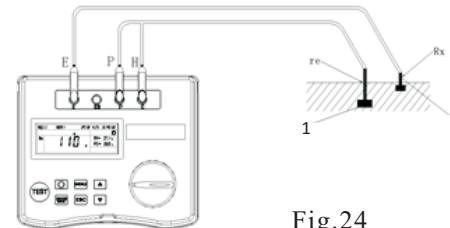

Fig.24
(3) Connection (Reference To Fig. 24)
Connect the Test Leads as shown in Fig.24